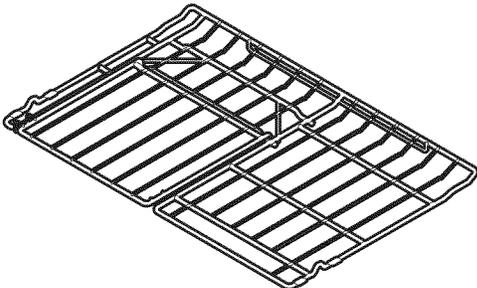

Figure 3 - Models B & C only
- **Flat oven half rack** (Models B & C only - Figures 3 & 4).